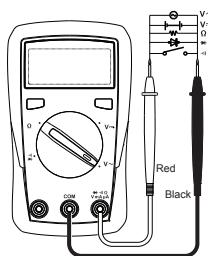

Figure 2a
- AC/DC Voltage Measurement** (see Figure 2a)